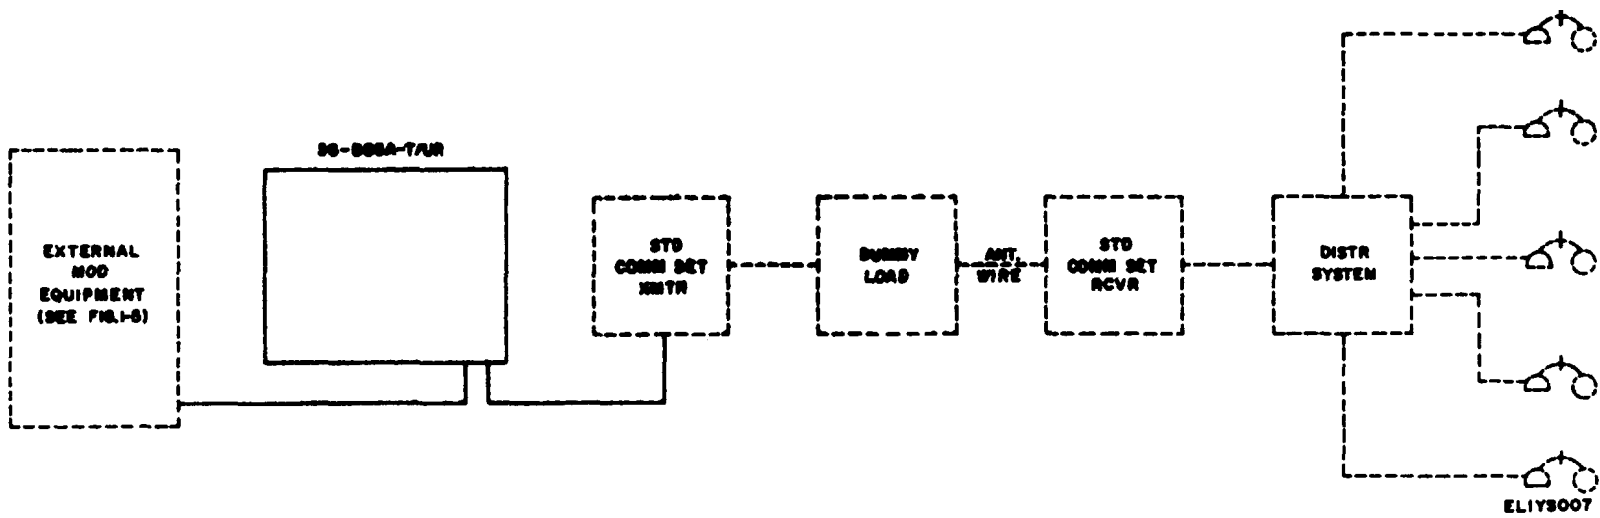

Figure 1-7. Classroom training setup.
e. *Classroom.* Either copy-through interference or antijamming training can be conducted in a classroom as illustrated in figure 1-7. The basic and optional arrangements in A, figure 1-5 remain the same, except that the jamming source transmitter is